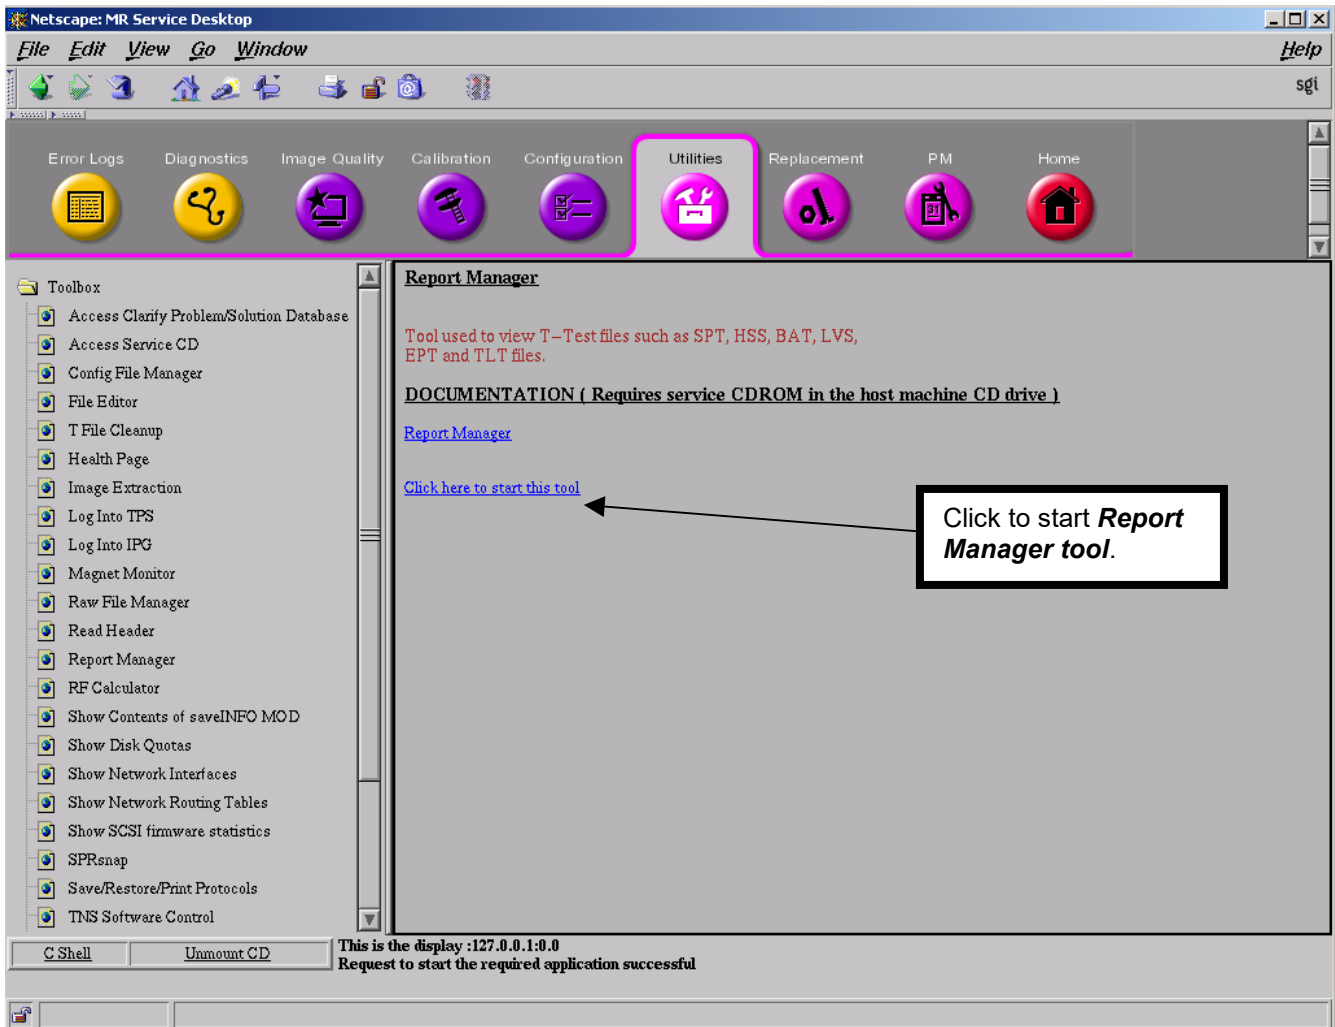

Figure 5
- 9. To launch the Report Manager tool, click the link: “Click here to start this tool” located on the right side of the Report Manager window as shown in Figure 5.